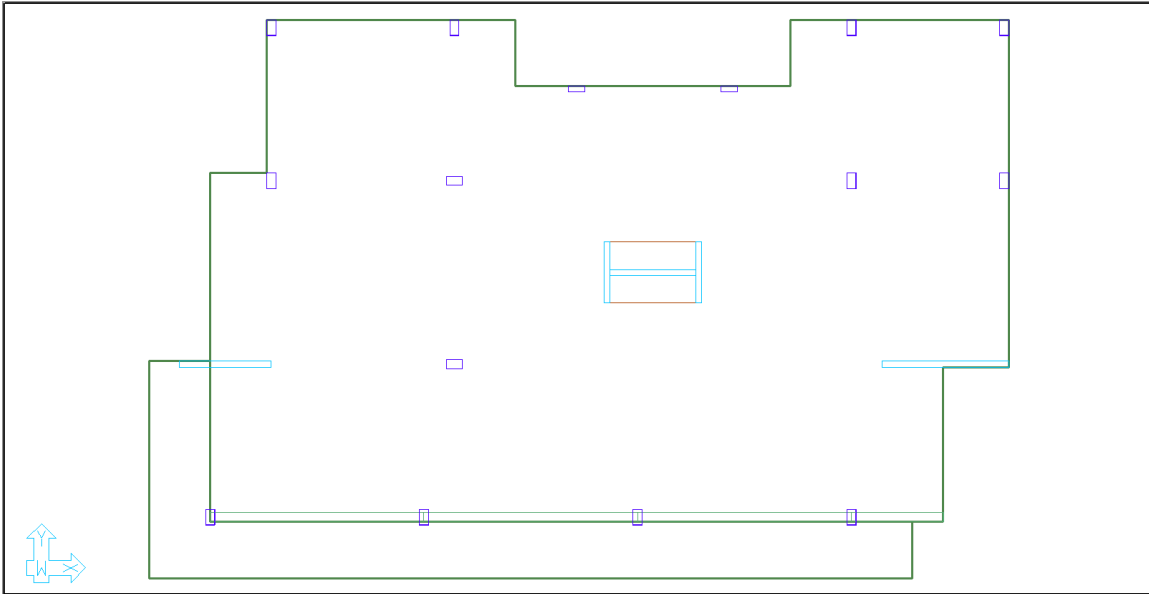

FIGURE 9-4
- Click on the **Top View** icon  in the **Bottom Quick Access** toolbar. This will bring you to the view of the model shown in **FIGURE 9-4**.